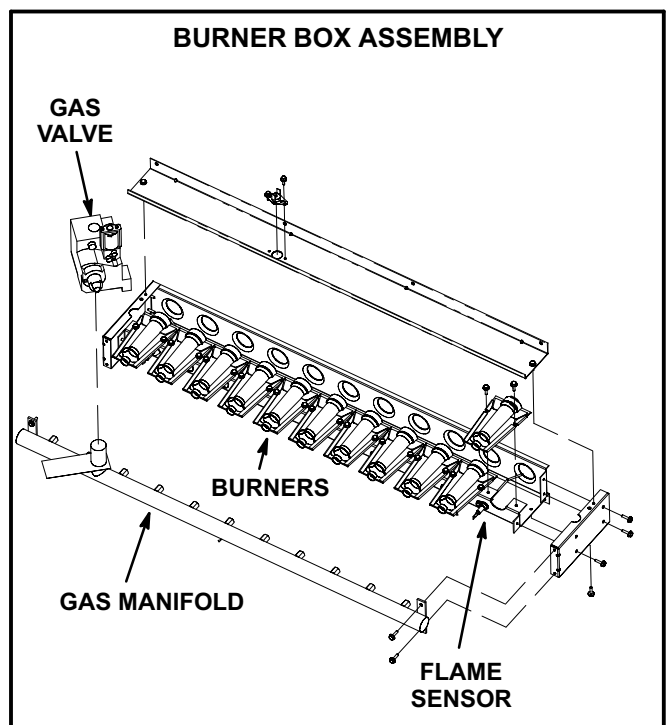

FIGURE 19
- 3- Remove two screws securing burners to burner support and lift the burners from the orifices. See figure 19. Clean as necessary.